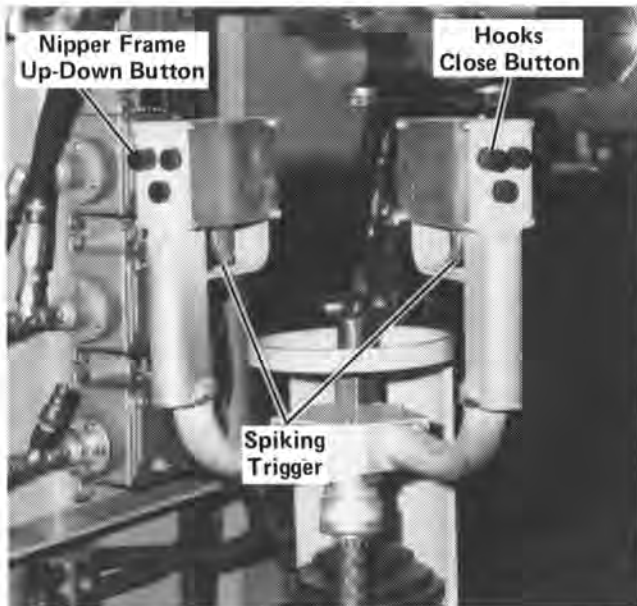

Figure 19
- A. Depress the "Hooks Close" thumb button on the right hand trigger box to insure that the hooks are open and nipper frame is in the maximum up position. See Figure 19.